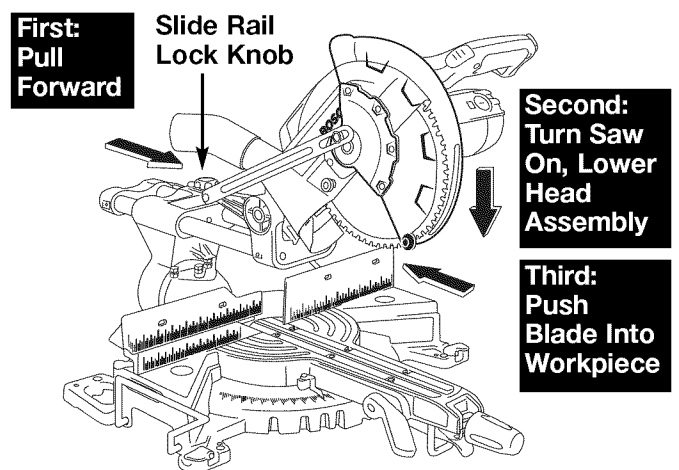

Figure 27. Slide Cut
2. Loosen the slide rail lock knob (figure 27).
3. Grasp the switch handle and pull the head assembly away from the fence, until the blade clears the workpiece or to its maximum extension (Figure 27).